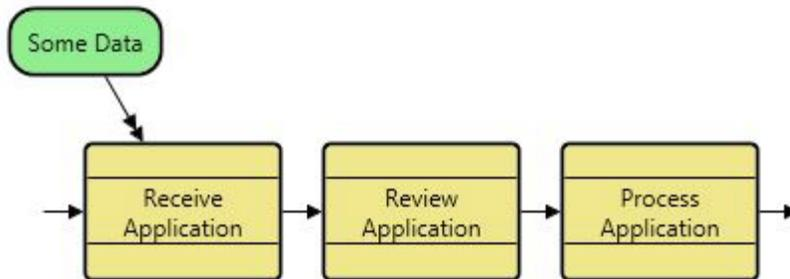

Figure 38 Second Function Decomposed
**Functions** may be decomposed into lower-level models. To illustrate this point, we have added application-processing functions as shown in Figure 38 as the decomposition of Second Function.